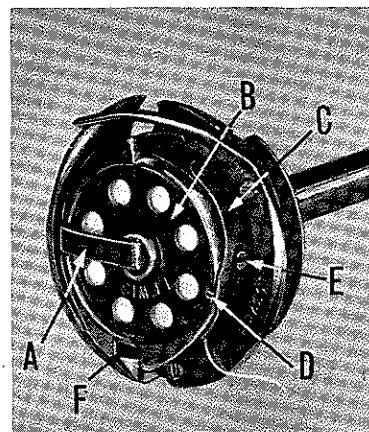

Fig. 15
Open the bobbin case latch (A, Fig. 15), and insert bobbin (B) so that the thread will come off the bottom of the bobbin in the direction of the bobbin case tension spring (C) and through the notch (D) in the bobbin case. Close bobbin case latch. The
To replace the foot, keep the plunger at its lowest position. Press the knee lifter and place the foot in position on the frame. Replace and tighten the two screws that hold the foot on the head casting, being sure to see that the groove in the bobbin case (F, Fig. 15) fits over the projection